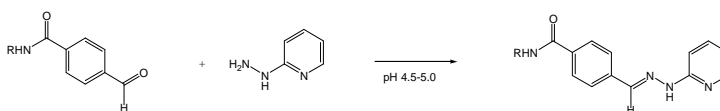

Figure 2: Colorimetric reaction used to quantify number of 4FB linkers on a biomolecule
The HyNic-4FB conjugation couple is chromophoric- the conjugate bond absorbs at 354 nm and has a molar extinction coefficient of 29000. This allows (1) real time spectrophotometric monitoring of a conjugate reaction, (2) ability to 'visualize' the conjugate during chromatographic purification using a UV or photodiode array detector and (3) quantification of conjugation. Furthermore, the level of incorporation of 4FB groups can be quantified colorimetrically as reaction with 2-hydrazinopyridine (Solulink catalog# # S-2002-100) yields a chromophoric product that absorbs at A360 with a molar extinction coefficient of 18000 (Figure 2). Links to procedures and calculators to guide users through this process are given in the procedures below.
- The molar substitution ratio (MSR) can be determined using a colorimetric reaction outlined in Figure 2. Addition of 2-hydrazinopyridine to a 4FB-modified biomolecules yields a compound that absorbs at 350 nm. Refer to the 4FB-Protein Colorimetric MSR Calculator or the 4FB-Oligonucleotide Colorimetric MSR Calculator as well as the protocol that is appropriate for your lab equipment: 4FB Colorimetric MSR Assay Protein Nanodrop Method Protocol, 4FB Colorimetric MSR Assay Protein Spectrophotometer Method Protocol, 4FB Colorimetric MSR Assay Oligonucleotide Nanodrop Method Protocol, or 4FB Colorimetric MSR Assay Oligonucleotide Spectrophotometer Method Protocol.